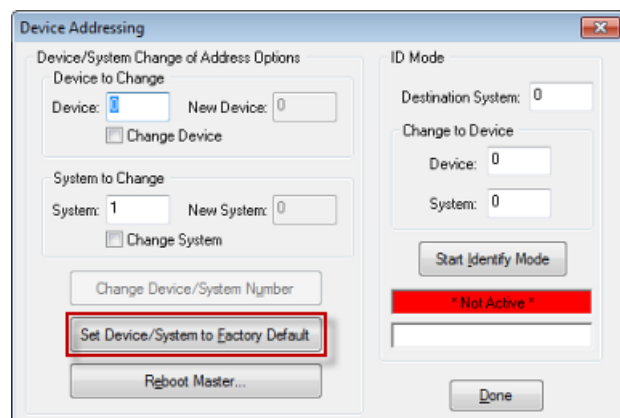

FIG. 27 Device Addressing dialog
2. Click the **Set Device/System to Factory Default** button (FIG. 27):